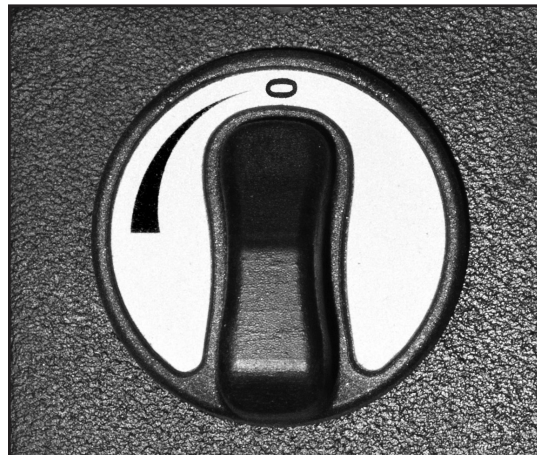

Fig. 156
- Switch the control valve (Fig. 156) for the cabin heater to “warm”.